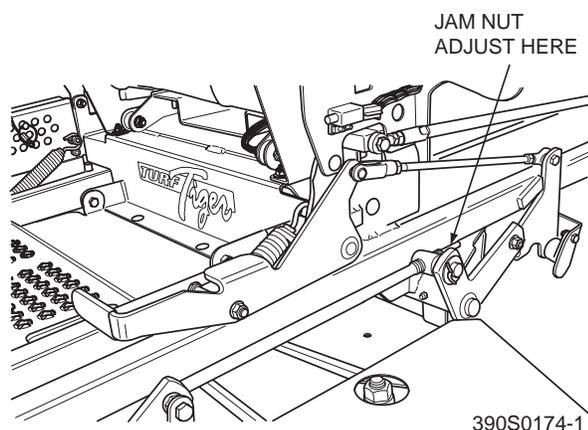

Figure 6-5. Cutter Deck Adjustment
1. On the front LH side of the cutter deck locate the cutter deck adjusting bolt. (See Figure 6-5)
1. Loosen the jam nuts on both adjusting rods. (See Figure 6-5)
2. Using a wrench on the spring compression nut (See Figure 6-5) turn the adjusting rods until the 1/4" forward pitch is obtained on both the RH and the LH side of the cutter deck. Tighten both jam nuts.